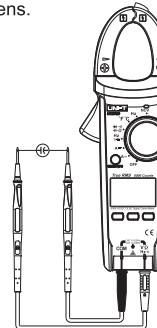

Fig. 10
**9.Measurement of capacitance (shown as Fig. 10)**